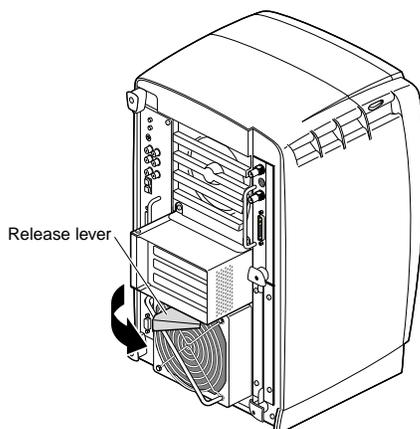

Figure 4-7 Opening the Release Lever
2. Pull the release lever toward you and to the right, as shown in Figure 4-7.